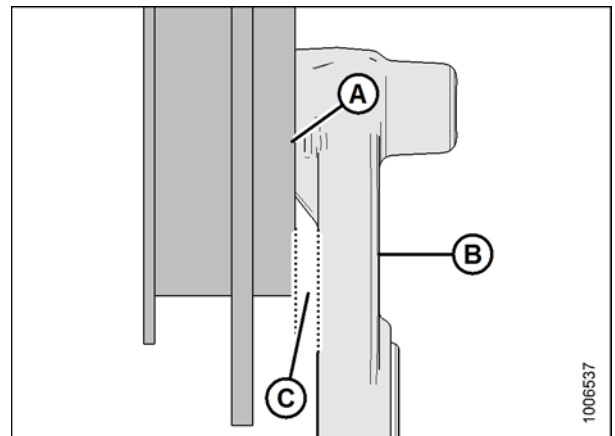

Figure 2 Cam Arm Gap
- f. Rotate the reel and measure the clearance (C) between the cam arm (B) and the outer cam ring (A) at each inspection point. (Figure 2)